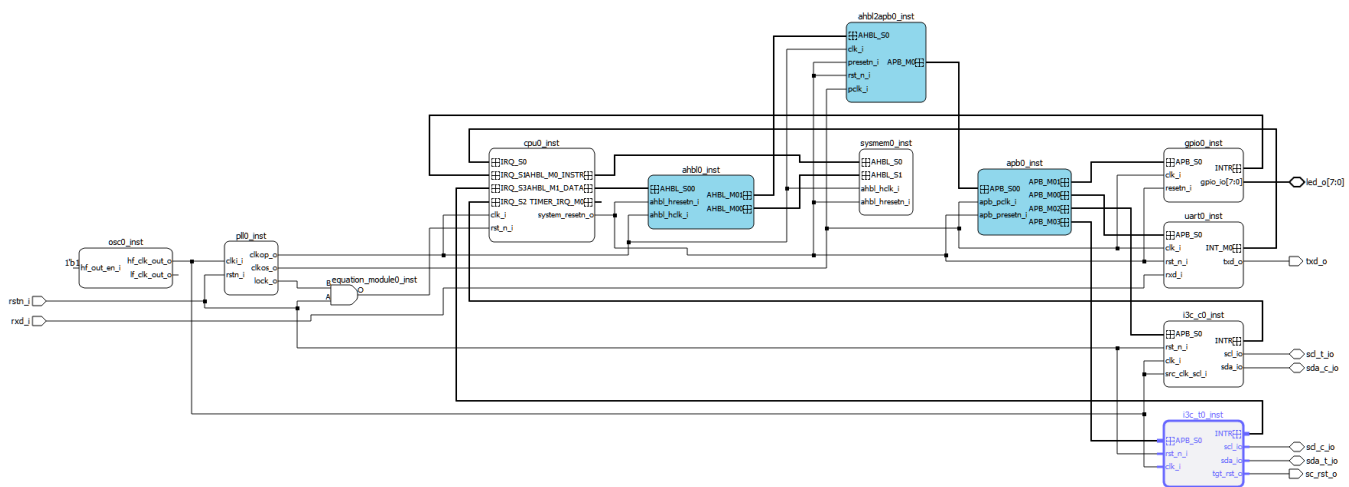

Figure 6.1. I3C Target IP in Propel SoC Project
I3C Controller and I3C Target are instantiated and connected in the project as shown in Figure 6.1. In this example, I3C Controller and I3C Target are instantiated in the same system. Refer to the I3C Controller IP User Guide \(FPGA-IPUG-02228\) when generating the I3C Controller IP.
- Connect the instantiated IPs to the system. Refer to Figure 6.1 for the connections used in this IP. You will need to update other components of the system for clock and reset sources, interrupt, and bus interface.